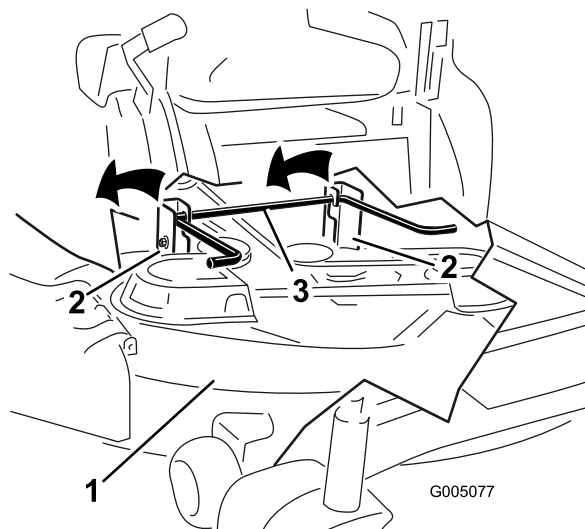
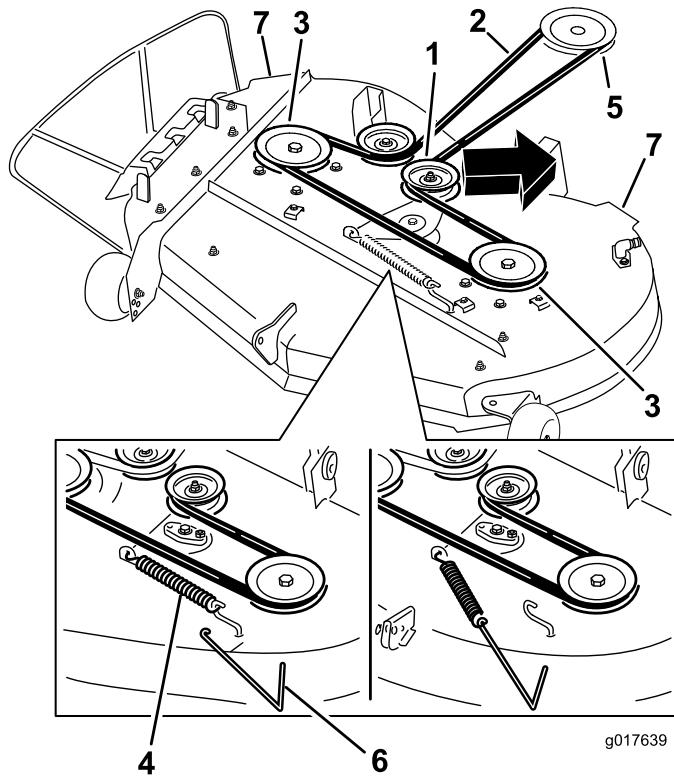

Figure 56
Figure 57
5. Using the mower deck handles, lift the mower deck and hanger brackets clear of the rear lift rod and lower the mower carefully to the ground (Figure 56 and Figure 57).
tension on the idler pulley and roll the belt off of the pulleys (Figure 57).
5. Lift the rear of the mower deck and guide the hanger brackets over the rear lift rod (Figure 56).
5. Route the new belt around the engine pulley and mower pulleys (Figure 57).
6. Using a spring removal tool, (Toro part no. 92-5771), install the idler spring over the deck hook and placing tension on the idler pulley and mower belt (Figure 57).